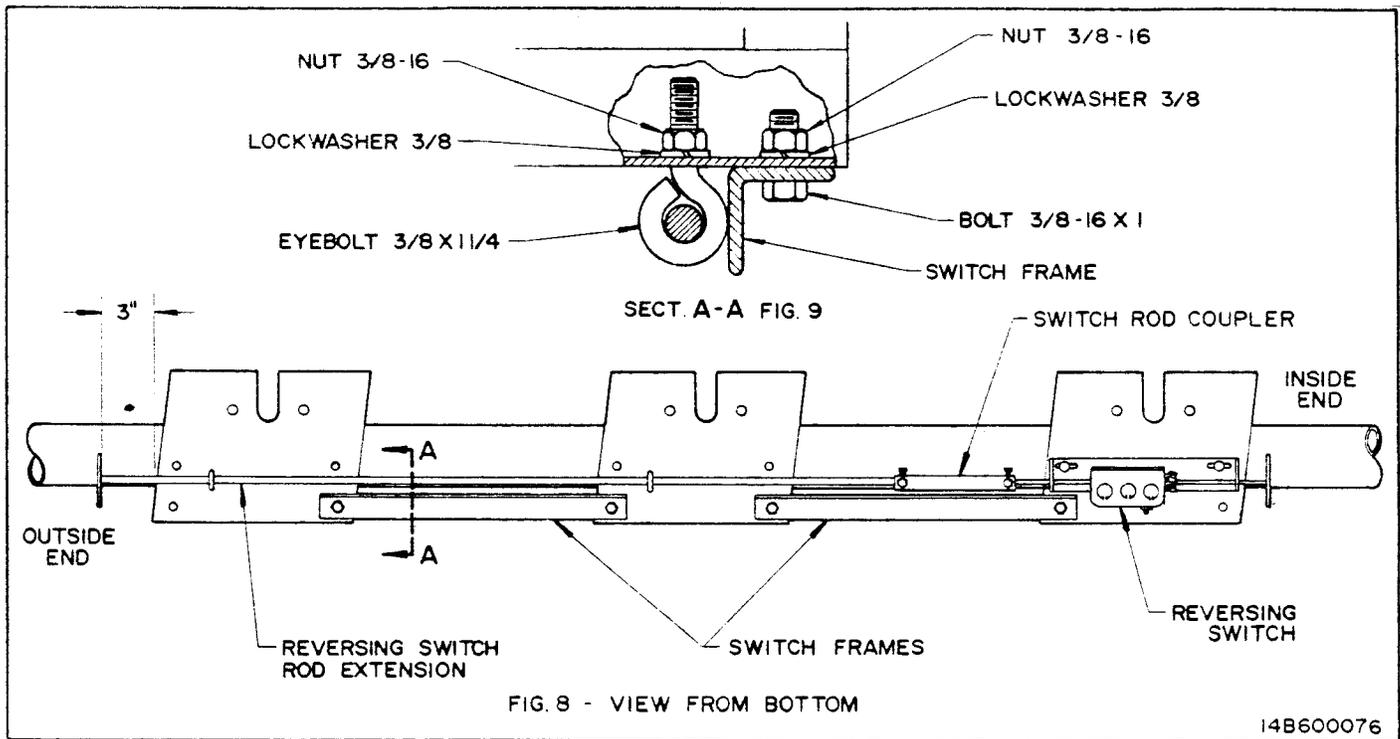

FIG. 8 & 9 - ASSEMBLY SWITCH FRAME & REVERSING SWITCH
4. Mount switch rod coupler onto reversing switch assembly rod about 1/2". Tighten bolt and lock nut on coupler. Check to see that switch has adequate clearance to reverse by sliding rod back and forth so that a "click" is heard. Fig. 8.
6. Slide switch rod extension into coupler so that opposite end extends approximately 3" beyond carriage. Tighten coupler. Fig. 8.